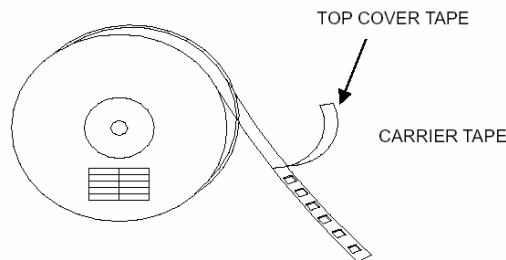

Figure 1 Taping Structure
1.2.1 Carrier Tape: see Figure 1